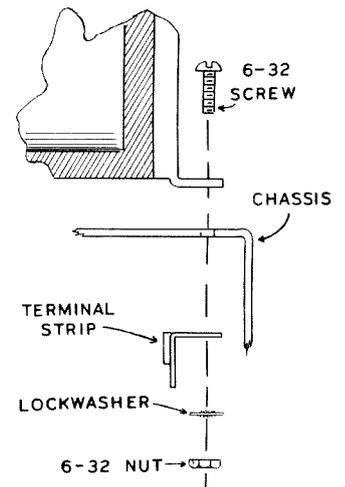

Figure 4
- (✓) Mount the power transformer on top of the chassis. Also install the 3-lug terminal strip as shown in Figure 4.